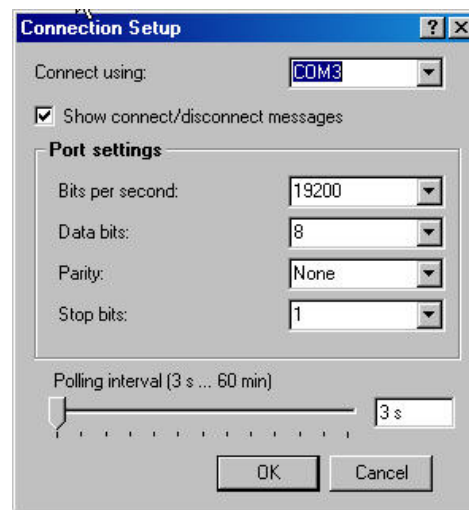

FIGURE A-1. Connection Setup Screen
4. Enter the settings for each of the Connection Setup Screen’s parameters (see Figure A-1). The default settings are: